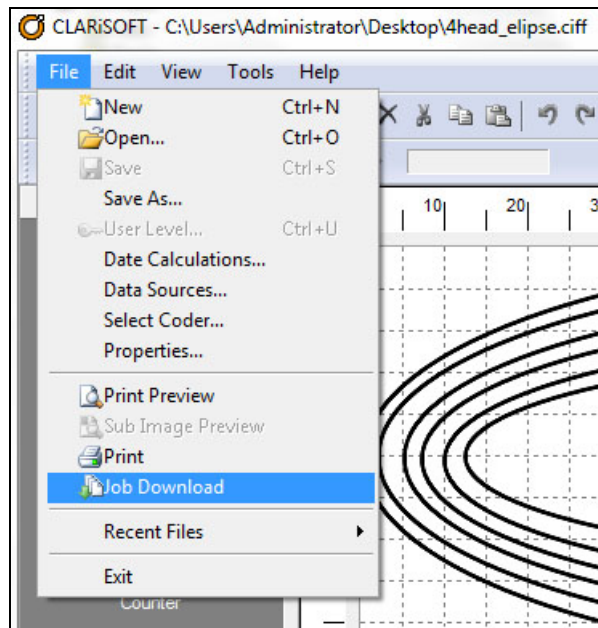

Figure 6-12: Job Download Command
- 2 On the *File* menu, click *Job Download* (see Figure 6-12).